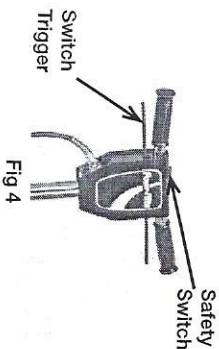

Fig 4
- Plug the machine in as directed and lower the handle to the desired operating height. Push the safety switch forward (Fig 4) and squeeze the switch triggers beneath the handle grips. This activates the motor and starts the pad driver operation. Each time you release the machine, the safety switch will reset. You will need to follow the direction above to restart the machine. **CAUTION:** When leaving the machine unattended, disconnect the wall plug and return the handle to the "locked" upright position to prevent accidental starting.